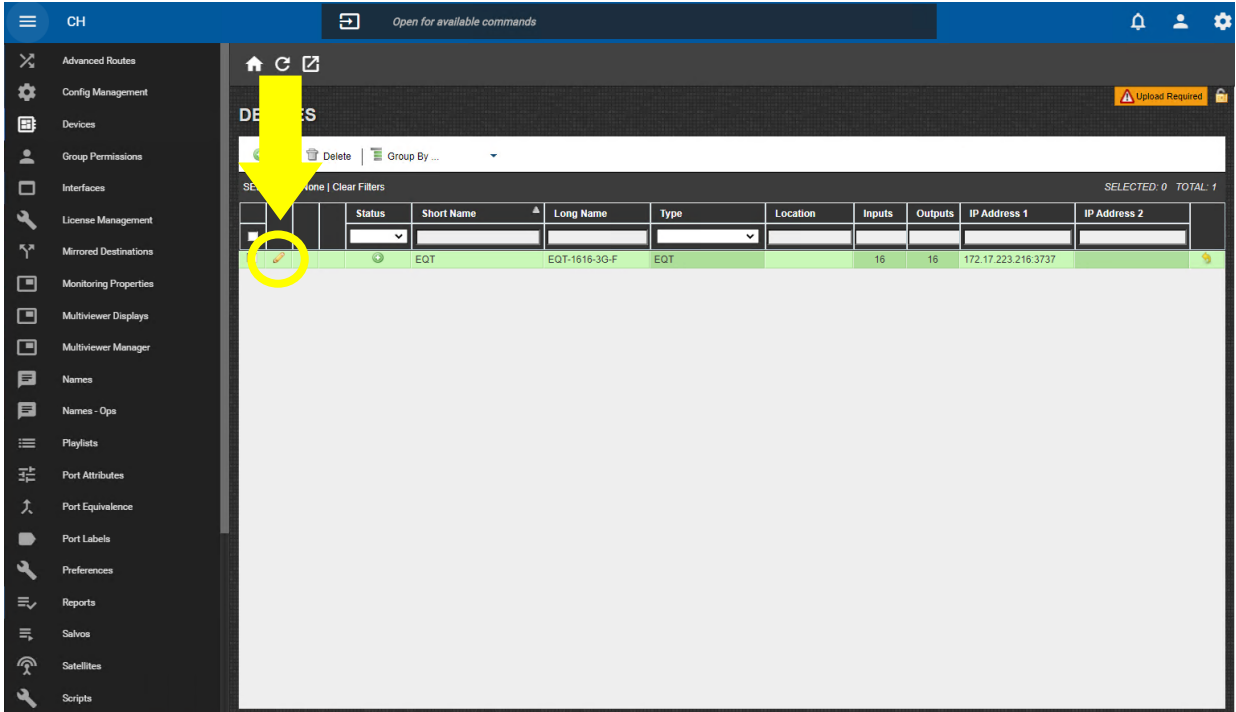

Figure 9-6 : MAGNUM - Edit Option
9. Click the icon indicated in Figure 9-6 to edit and include the device’s information for proper control.